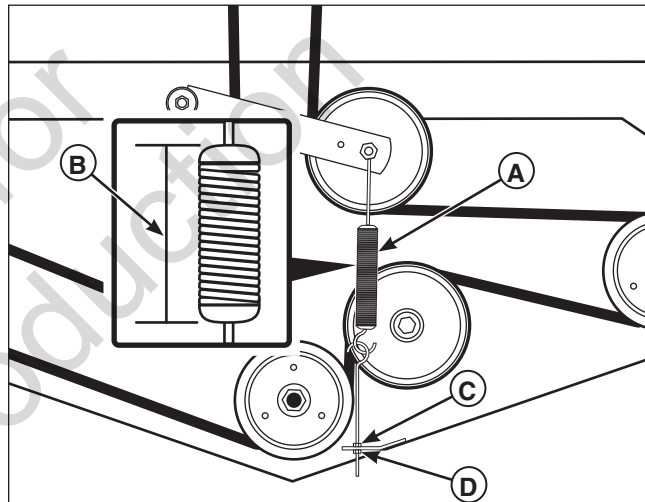

Figure 29. Check / Adjust the Mower Belt Idler Tensioner Spring Length
2. Measure the coil length of the mower belt tensioner spring (A, Figure 29). The measurement should equal the measurement as indicated in the chart. If it does not, adjustment is necessary, continue with step # 3.
3. Loosen the jam nut (C).
4. Turn the adjustment nut (D) until the measurement as indicated in the chart is achieved.